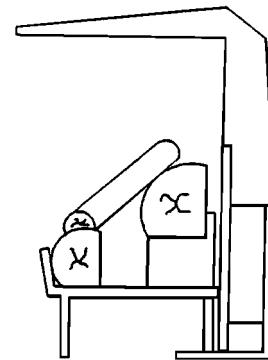

Figure 1
3. Install the circulator in the fireplace with the discharge duct facing the room. If the burner unit is already installed, tilt the circulator forward so that the leg plate is perpendicular to the floor. After the circulator leg plate is behind the burner unit, rotate the circulator to its normal position. (See Figure 1)
If the burner unit has not been installed, place the circulator in the rear of the fireplace facing forward. (See Figure 1)